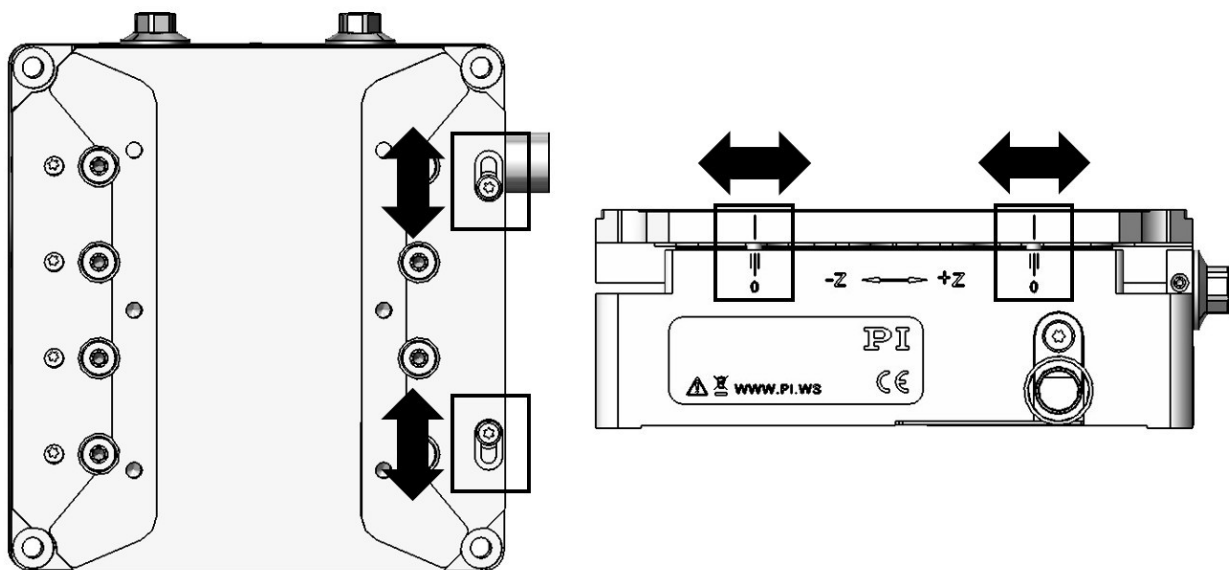

Figure 8: View from above and lateral view of V-308.753030, for modifying the travel range.
2. Loosen the screws marked in the longitudinal holes, see view from above in Figure 8 (p. 22).